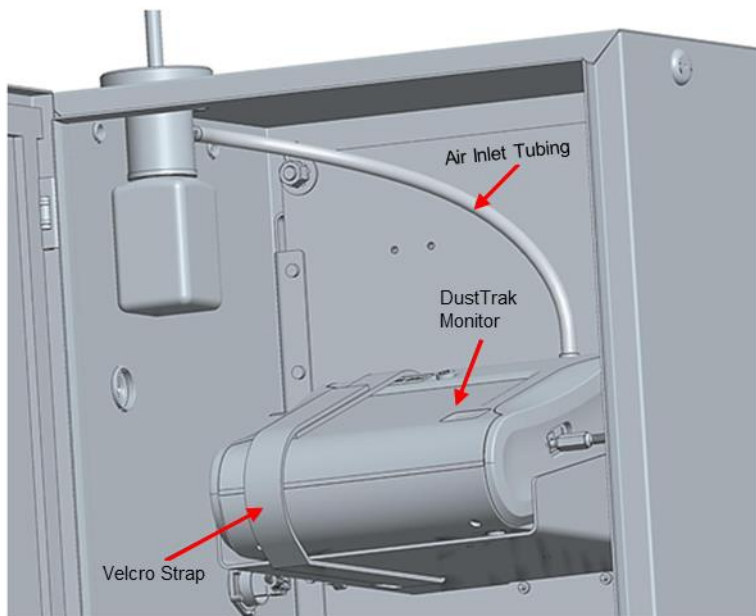

Figure 23: Install the Barbed Inlet Fitting and Sample Inlet Tubing
1. Make sure that the Inlet Fitting is inserted into the Inner Inlet Ring as shown in Figure 23.